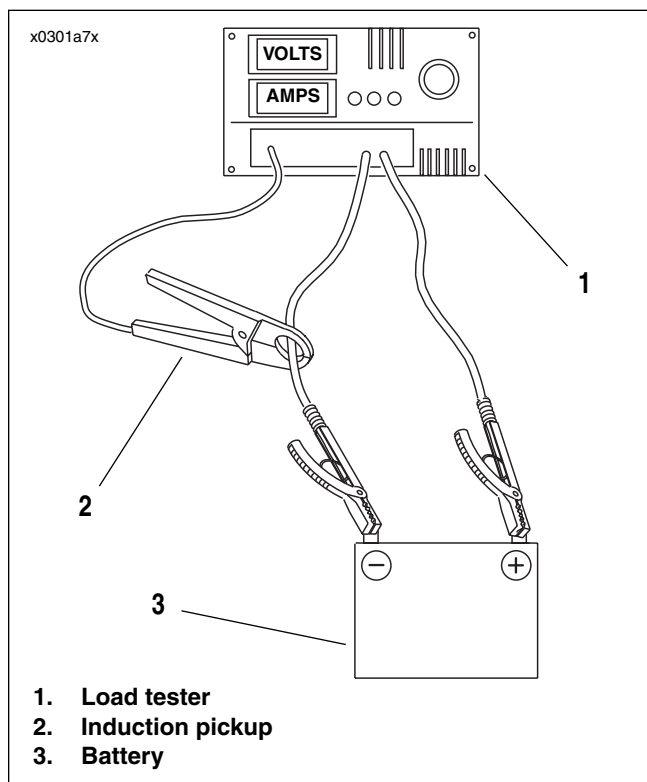

Figure 8-22. Load Test Battery
4. See Figure 8-22. Connect tester leads to battery posts and place induction pickup over negative (black) cable.